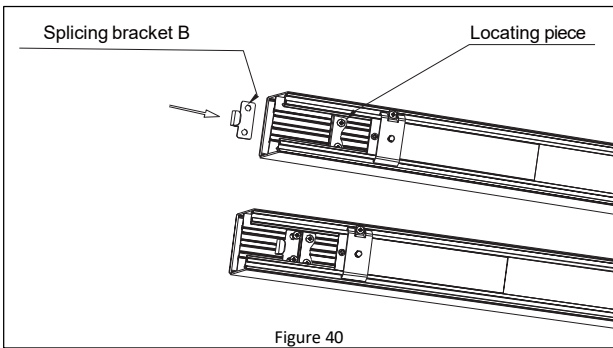

Figure 40
2. Slide the splicing bracket B into locating piece, then secure it with screws. **See Figure 40.**